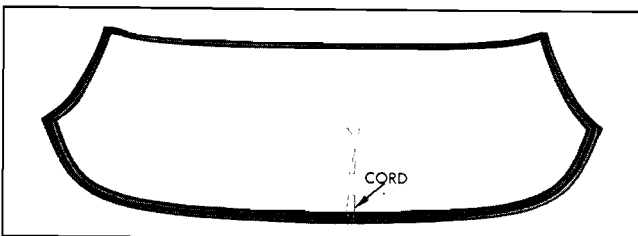

Fig. 10A-12 Windshield Installation
ends of cord and tape to inside surface of glass at bottom center of glass (Fig. 10A-12).
5. Apply a ribbon of medium-bodied sealer completely around base of rubber channel as indicated by "1" (Fig. 10A-13).
6. Apply a bead of medium-bodied sealer, approximately $\frac{1}{4}$ " in diameter to corner of windshield opening rabbet around each side of windshield for distance indicated by "3" (Fig. 10A-13).